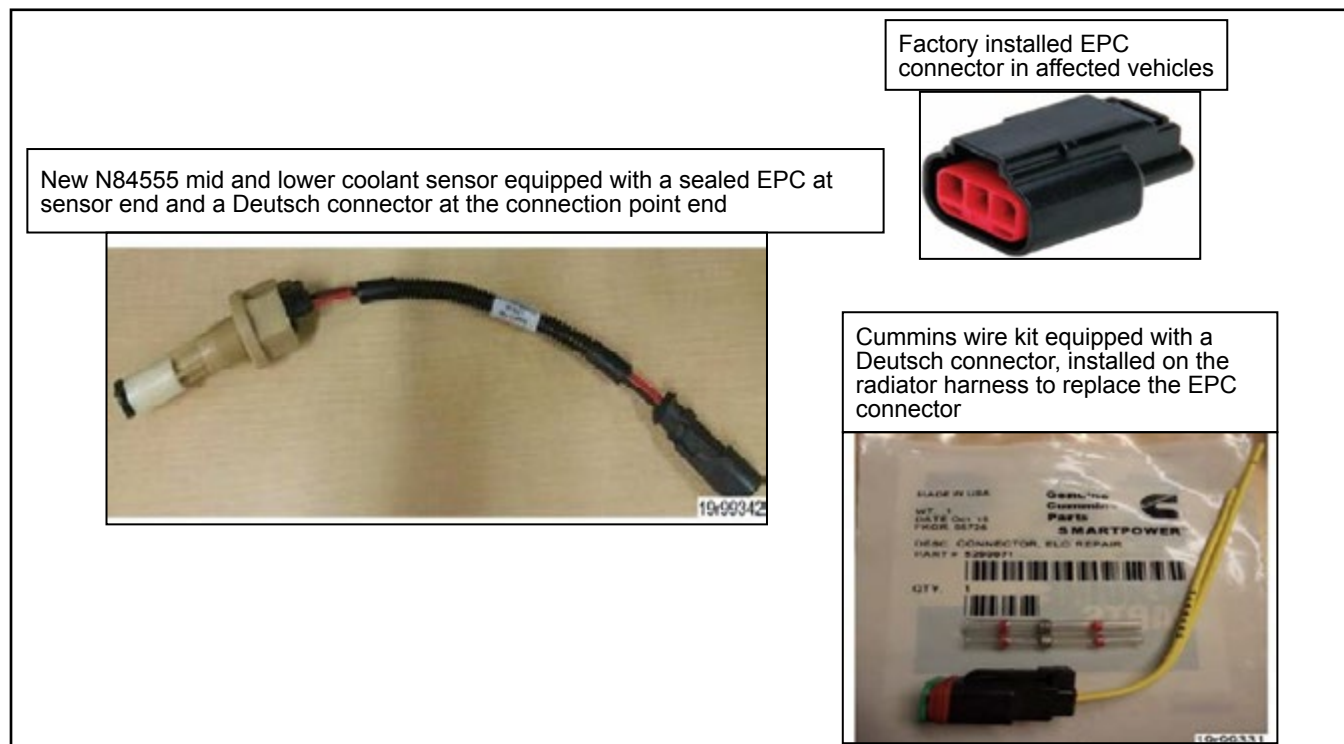

Figure 1 - Cummins Campaign C1744 Details
- 1.1.1. Replacement of the mid and lower coolant sensors by new N84555 sensors. See Figure 1.
- 1.1.2. Modification of the radiator electric harness by installing a wire splice kit to replace the two PKC-type connectors. See Figure 1.